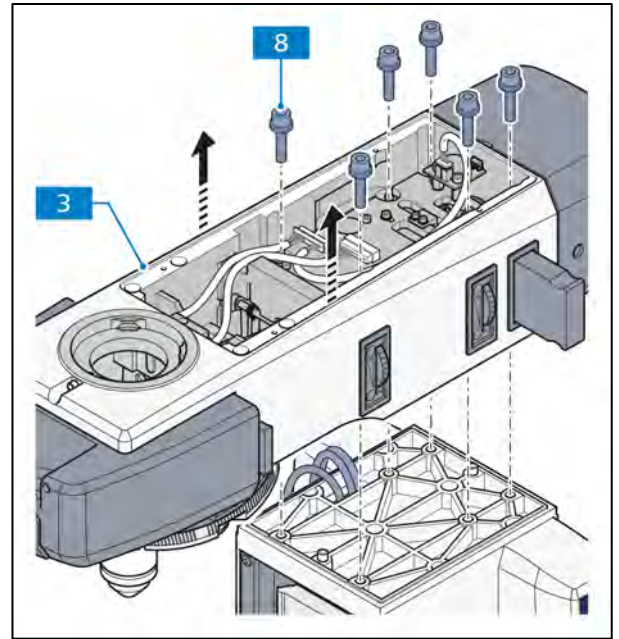

Fig. 3-55 Removing the upper stand part
- Hold the upper stand part (Fig. 3-55/3) and unscrew the 6 Allen screws (Fig. 3-55/8).